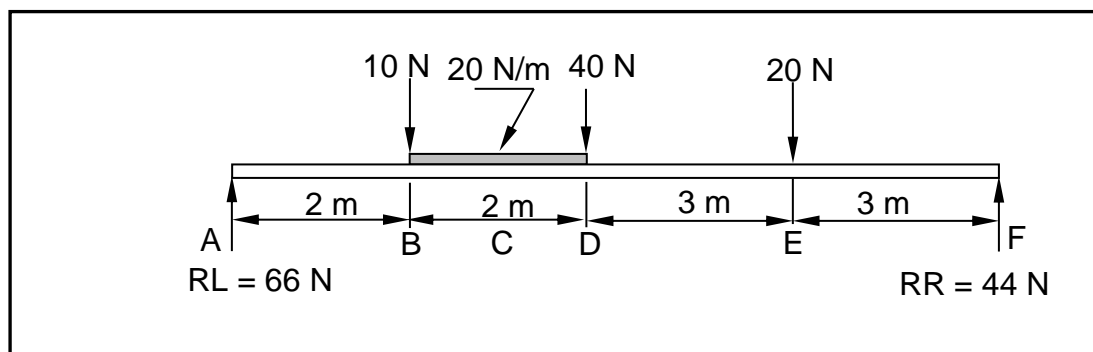

FIGURE 5.3
- 5.3 FIGURE 5.3 below shows the space diagram of a beam with a span of 10 metres, with three point loads and a uniformly distributed load. Study the diagram and answer the questions that follow.